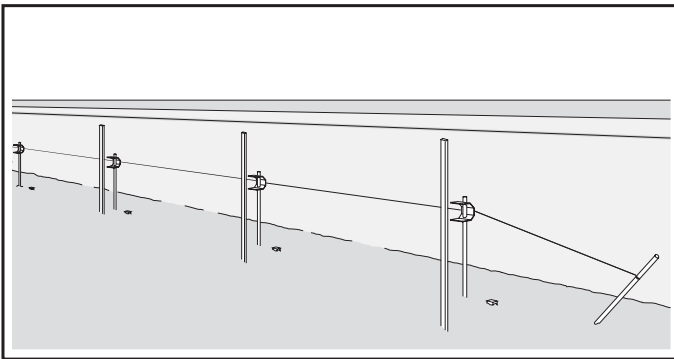

**Figure 3-5. Stringline Spans Surface Irregularities**
- Since the stringline is pulled tight, any small irregularities in the existing surface will be spanned (Figure 3-5).